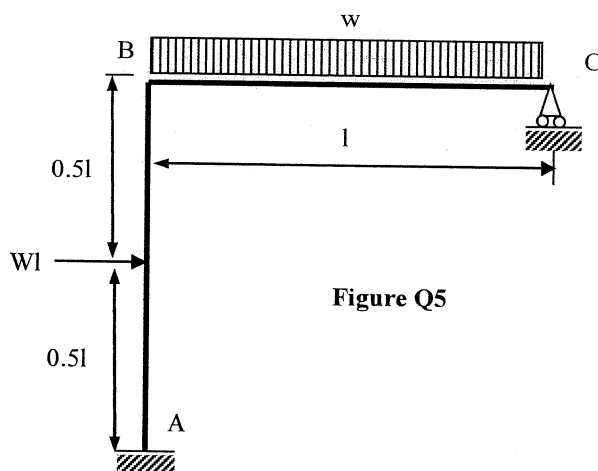

Figure Q5
- (ii) Consider the frame structure shown in Figure Q5. Flexural rigidities of members AB and BC are the same. Find the free nodal displacements at B using the displacement method. You can neglect the axial deformation. (10 Marks)